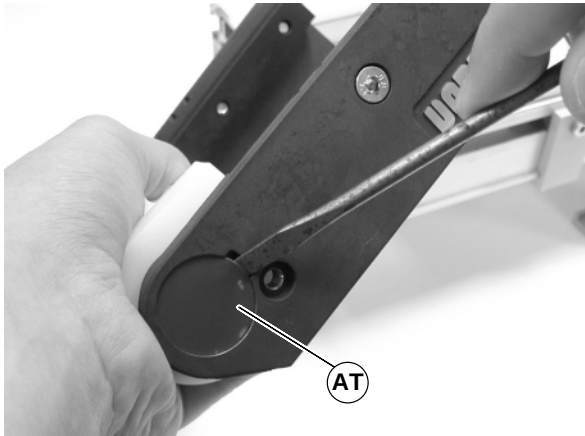

Figure 36
2. Remove bearing cover (AT of Figure 36) from side opposite of drive shaft.